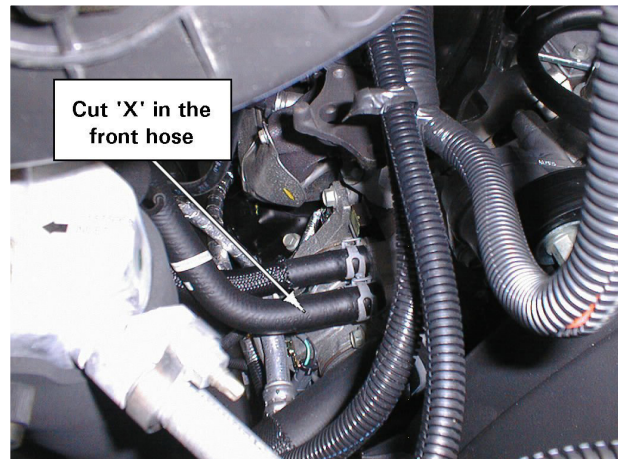

Figure 45. Cut Small 'x' 2.5" from Water Pump Hose
- a. One method for recapturing the antifreeze is to insert a hose barb into the water pump hose to drain the coolant. This can be done by cutting a small 'x' in the $\frac{3}{4}$ " water pump hose approximately 2.5" from the water pump housing. It is located on the passenger side of the water pump and thermostat housing (see Figure 45).